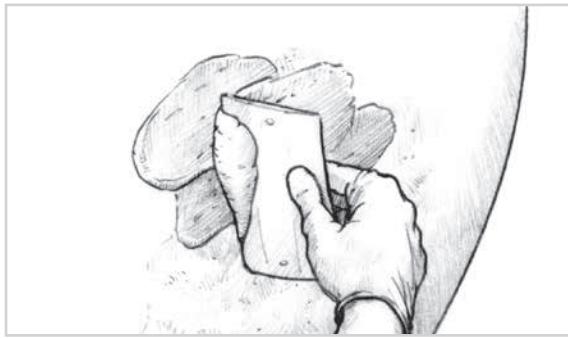

Figure 14-5 Use a spreader to apply fairing compound, and slightly overfill the area. Shape the mixture to blend with the surrounding contour.
4. Trowel the mixture on with a plastic spreader. Fill the low areas to just above the fair level so the fairing compound can be sanded back down to fair without having to be refilled. Use the spreader to smooth the compound as close as possible to the desired shape to avoid excessive sanding after the mixture has cured (Figure 14-5). The contour of small areas can often be judged by eye. When filling voids over $\frac{1}{2}$ " deep, it's best to apply the mixture in two or more layers to avoid excessive heat build up from the exothermic curing reaction. Apply the second layer after the first layer has partially cured.